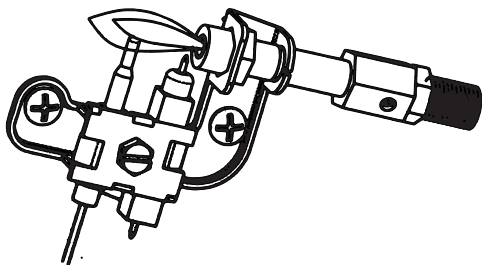
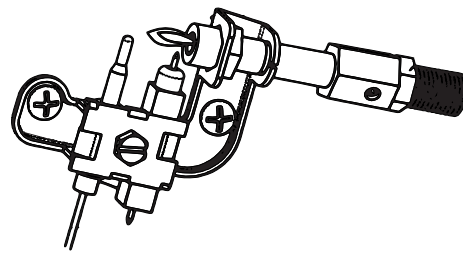

Fig. 20: Correct Pilot Flame Pattern
Fig. 21: Incorrect Pilot Flame Pattern
Fig. 20 shows a correct pilot flame pattern. Fig. 21 shows an incorrect pilot flame pattern. The incorrect pilot flame is not touching the thermocouple. This will cause the thermocouple to cool, which shuts the heater off. If pilot flame pattern is incorrect: turn heater off (see “To Turn Off Gas to Appliance” on page 21) (see Troubleshooting pages 25 through 27.)
4. Blow air through the ports/slots and holes in the burner. Also clean the pilot assembly. A yellow tip on the pilot flame indicates dust and dirt in the pilot assembly. There is a small pilot air inlet hole about two inches from where the pilot flame comes out of the pilot assembly (*see Fig. 21 & 22 on page 21*). With the unit off, lightly blow air through the air inlet hole. You may blow through a drinking straw if air is not available.